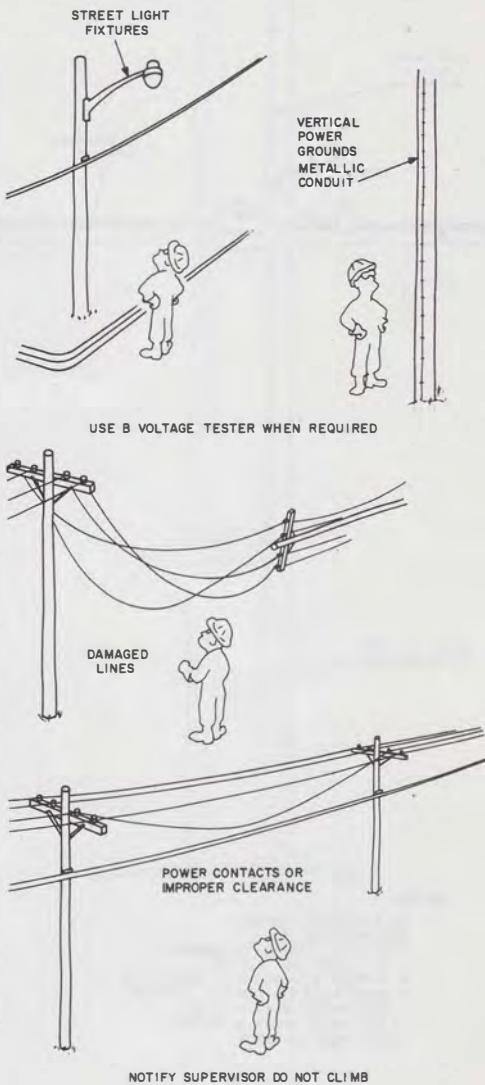

Fig. 6—Visual Inspection for Potential Electrical Hazards
- 6.01** Examine the pole for potential electrical hazards (Fig. 6) such as a vertical power ground wire, vertical metallic power conduit, street light fixture, power company primary disconnect hardware, or other foreign metal objects. Also, observe the pole and adjacent spans for such hazards as improper clearance from power conductors or equipment, dangling power wires, inadequate clearance on pole-to-pole guys from power wires or energized attachments, etc. If none of these are present, the pole may be ascended providing no other hazard is evident.